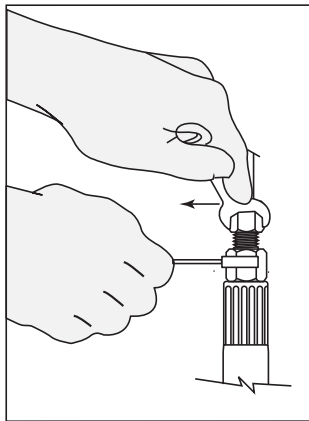

Fig. 16a
16.1 At the end of the water hammer absorber, connect the water supply tube, using the same type of fitting used on the water supply valve. Tighten the compression nut, without stripping, with two wrenches, one to hold the water hammer end, and one to turn the compression nut. Please see Fig. 16a.